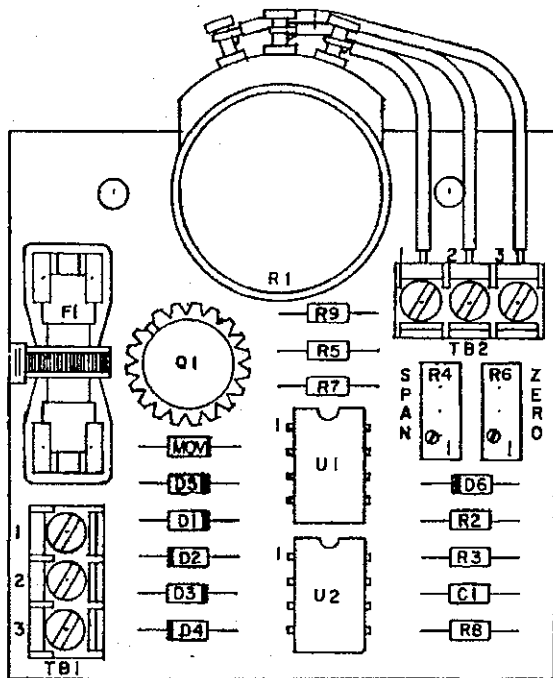

Figure 1
4.1 CONNECTION TO FLOWMETER - The transmitter circuitry which is integral to the flowmeter includes terminals for user connections. For flowmeter with explosion proof enclosure for transmitter, refer to Technical Manual FM-15432. The circuit component placement drawing Fig. 1, below locates the terminals.
5.2 **SCALE ADJUSTMENTS** - Refer to Fig. 1 for adjustment locations.